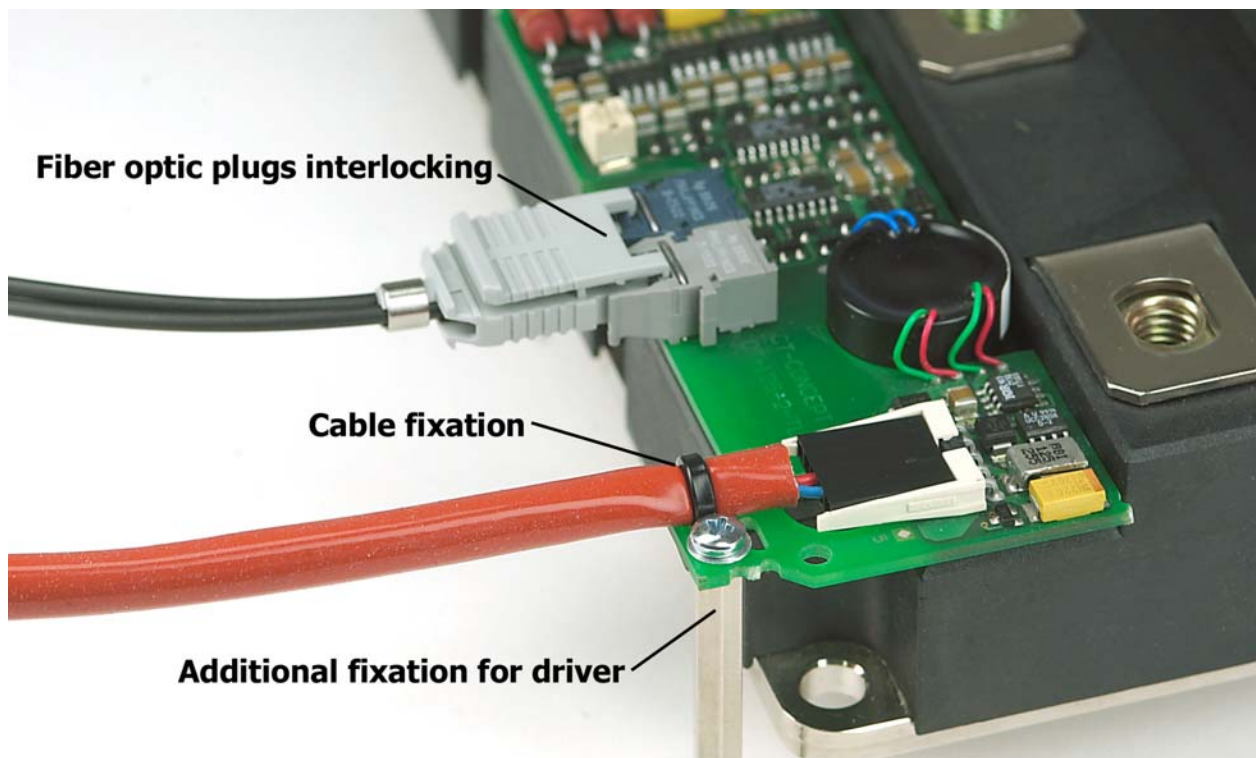

Fig. 14 Additional measures for fixing driver and power-supply cables as well as the relevant version of interlocking fiber-optic links
- a) Screw-fitting of the driver board to the cooler (see Fig. 14)
Basically, the power-supply plug provides a mechanical interlock. If desired, the supply cables could also be fixed at the driver board (see Fig. 14). An interlocking version of the fiber-optic links may also be supplied (see Fig. 14).